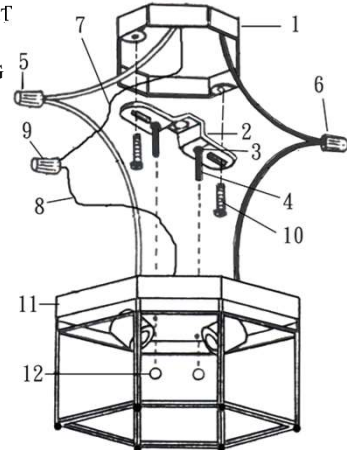

Fig.5
- B) If the fixture uses a single 1/8" IPS NIPPLE(4) for mounting, thread the 1/8" IPS HEX NUT(3) onto the NIPPLE, and screw the NIPPLE into the MOUNTING BRACKET(2), without tightening the HEX NUT(3).(Fig.5)
2. Pull the power supply wires out from the OUTLET BOX (1) and mount the MOUNTING BRACKET (2) or the universal mounting plate to the OUTLET BOX(1), using MOUNTING SCREWS(10).
3. Attach the power supply wire to the fixture lead wire by connecting BLACK to BLACK(6), and WHITE to WHITE(5). Connect the FIXTURE GROUND WIRE (8) to the SUPPLY GROUND WIRE(7) using a WIRE NUT(9).
4. Place the CANOPY(11) on the fixture over the OUTLET BOX(1) and onto the fixture mounting screws (or NIPPLE), and adjust the #8-32 fixture mounting screws (or NIPPLE) until they protrude out from the CANOPY(11) 1/4". Remove the CANOPY(11) and secure the position of the fixture mounting screw (or NIPPLE) by tightening the HEX NUT(S)(3) against the MOUNTING BRACKET(2). Place the CANOPY(11) back onto the fixture mounting screws,(or NIPPLE), and secure into place using the DECORATIVE NUT(12) provided.